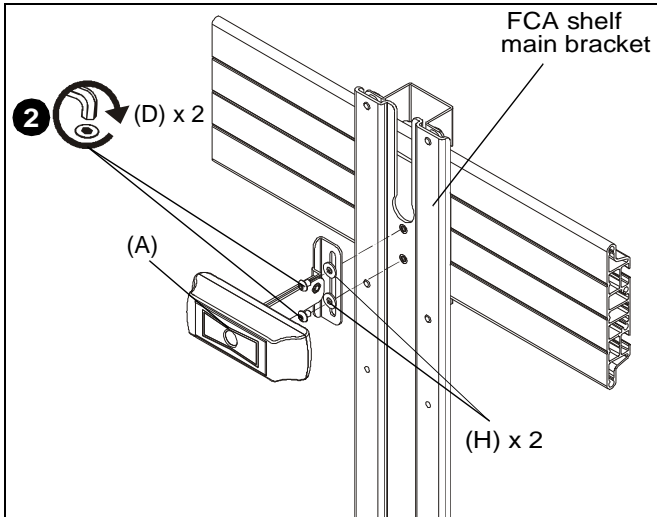

Figure 9
2. Use two #10-32 x 1/4" button head cap screws (D) and two #10 washers (H) to secure FCA820V/VE camera mount (A) to FCA shelf main bracket. (See Figure 9)